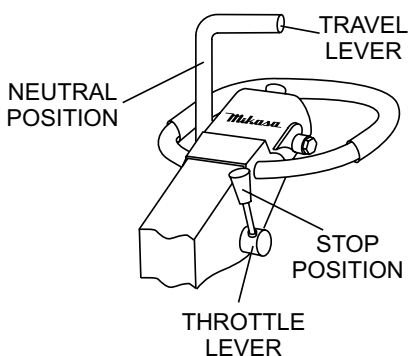

Figure 18. Throttle Lever (Stop)
2. Place the travel lever in the **NEUTRAL** position (Figure 18).
3. Place the throttle lever in the **STOP** position (Figure 18) to stop the engine.